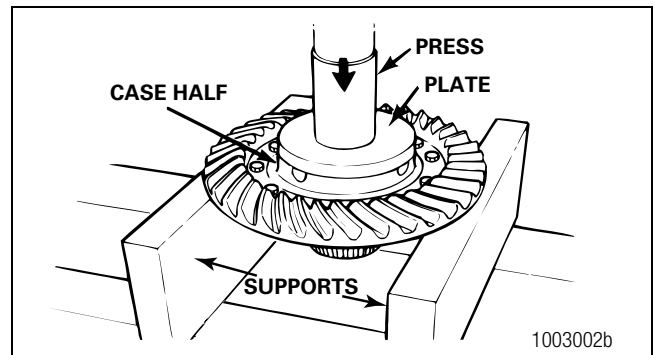

Figure 3.19
7. Use a press to separate the case half and ring gear. Support the assembly under the ring gear with metal or wood blocks. Press the case half through the gear. Figure 3.19.